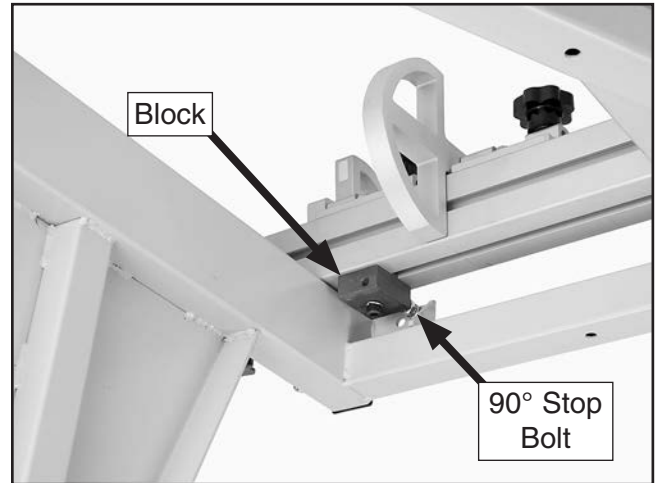

Figure 141. Crosscut fence adjustment cam.
1. Make sure the blade is parallel with the sliding table and that the block on the crosscut fence is resting against the 90° stop bolt (see **Figure 141** for locations).
6. Loosen the hex nut on the 90° stop bolt shown in **Figure 141**, and rotate the 90° stop bolt to square the crosscut fence.